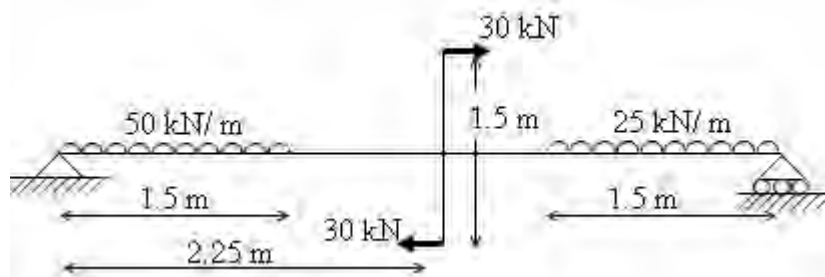

Figure 8:
8. Draw the shear force and bending moment diagrams for a simply supported beam of span 4.5 m subjected to loading as shown in figure 8. Locate the salient points. [15]